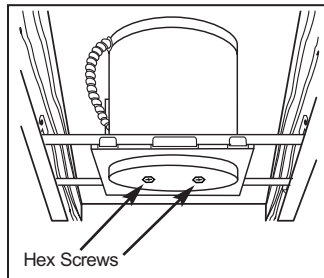
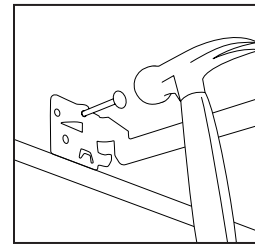

Figure 3
Figure 4
**Step 1.** Extend bar hangers to fit between joists. Bar hanger foot is contoured to easily align with bottom of joist (Fig. 3). Position fixture by hammering Real-Nails® into joists (Fig. 4).
**Step 4.** When installing in drywall, cut appropriate sized hole.\* After installing drywall, if necessary, adjust fixture for ceiling thickness by loosening hex screws that attach the round housing to the plaster frame (Fig. 3).